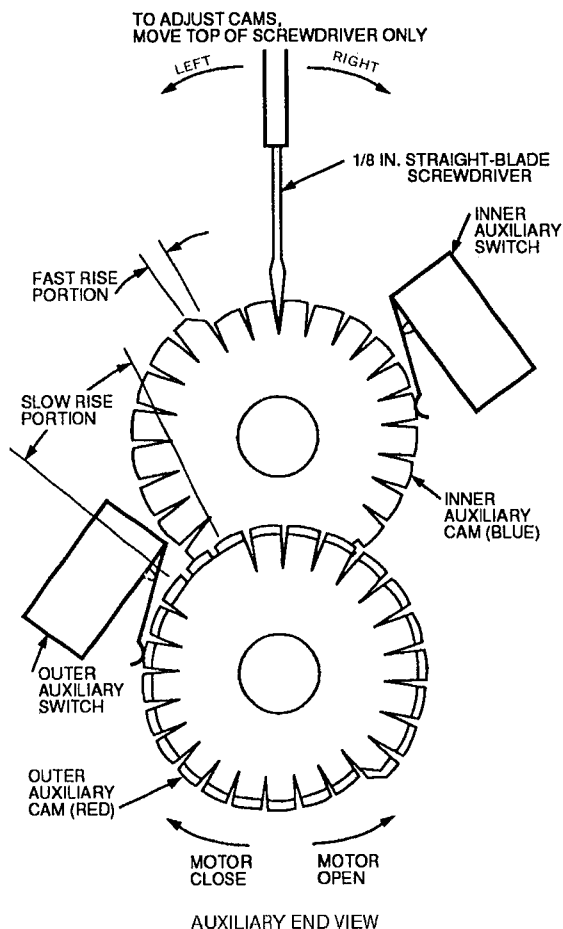

**Fig. 31 — Auxiliary Switch Adjustment**
- For 034,044 units: Remove damper motor top cover and verify that pointer points at number 35. If installing new motor, use screwdriver to turn blue cam so pointer lines up with the number 35. See Fig. 31.
- For 024-030 and 054-074 units: Remove damper motor top cover and verify that pointer points at number 63. If installing new motor, use screwdriver to turn blue cam so that pointer lines up with the number 63. See Fig. 31.
- If motor no. 2 was energized too soon (Step 4 of the test above was yes), turn blue cam one click to left (see Fig. 31). If motor no. 2 was not energized (Steps 4 and 5 of the test above were no), turn blue cam one click to the right (see Fig. 31)